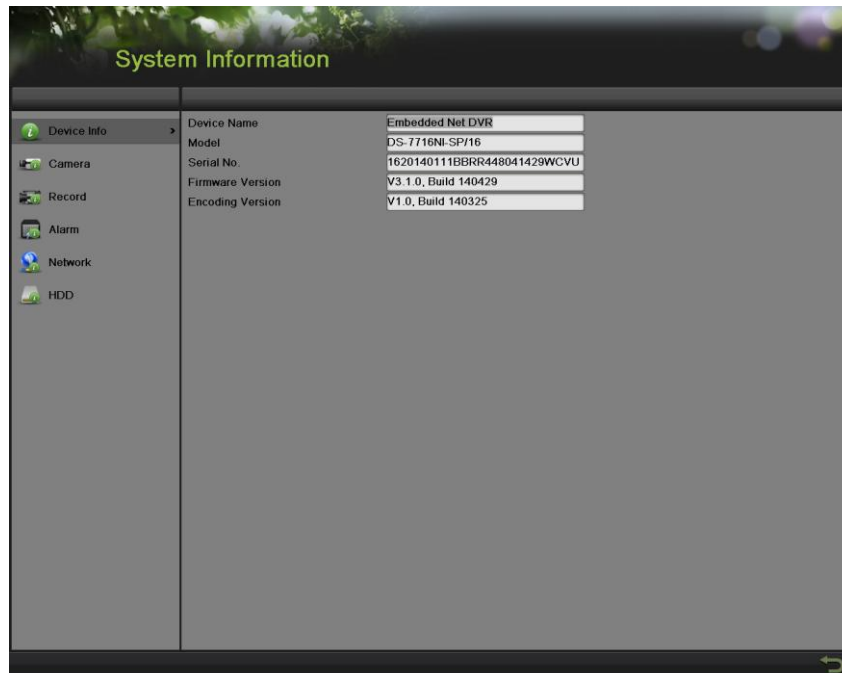

Figure 19 System Information Menu
The current status of your DVR can be checked at anytime by going to the System Information menu. The System Information menu, as shown in Figure 19, can be accessed by going to Menu > System Information.
1. Select the Device Info tab to enter the Device Information menu to view the device name, model, serial No., firmware version and encode version, as shown in Figure 19.